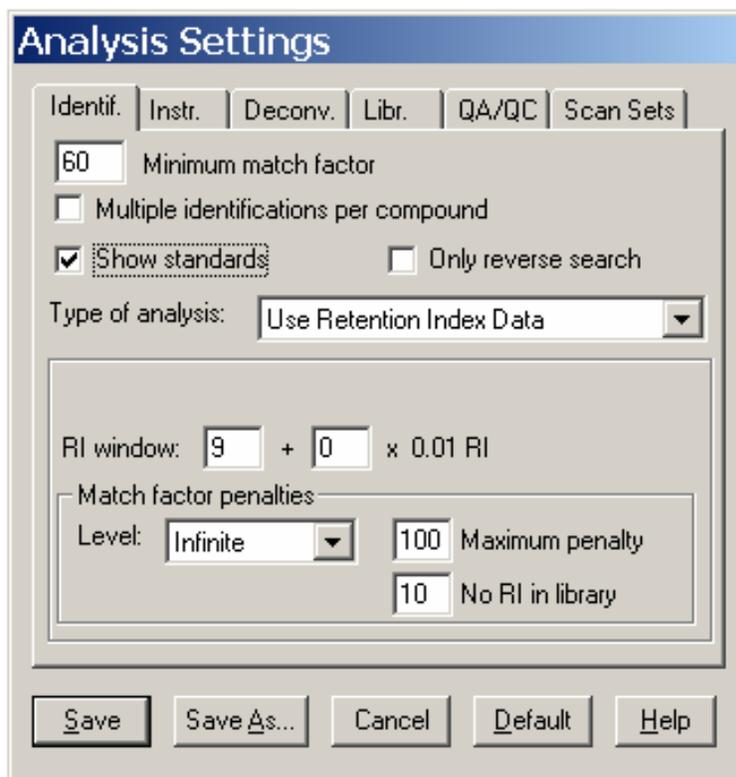
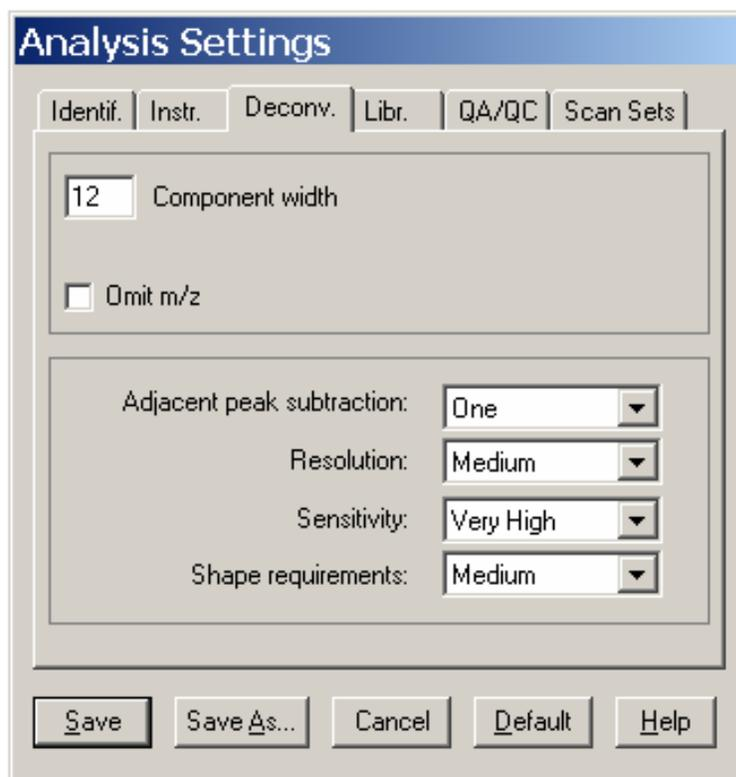

Figure 5 AMDIS Analysis Settings– Identif. settings
Figure 6 AMDIS Analysis Settings– **Deconv. settings**
- Step 3** In the resulting dialog boxes, verify and, if necessary, set parameters on **Identif.** and **Deconv.** tabbed views as in Figure 5 on page 18 and in Figure 6 on page 19, respectively.